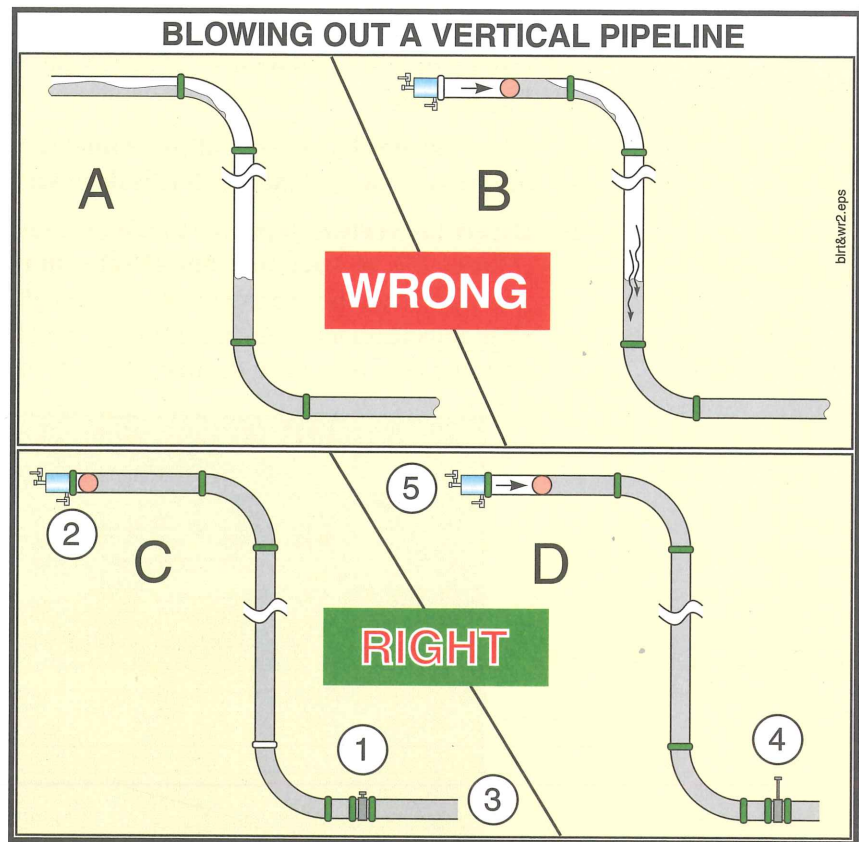

Figure 34
1. (See diagram A in Figure 34.) Without a shutoff valve installed, the pipeline is disconnected from the pump. Immediately, the concrete drains out of the vertical sections of pipe, leaving concrete in both horizontal sections, and air trapped in between.
2. (See diagram B in Figure 34.) The ball is inserted, and pushed with compressed air. This also compresses the air that is trapped in the vertical sections of pipe. The trapped air will be violently expelled when it reaches the end of the pipe, but the pipe will not yet be empty.
4. **When pumping is complete, close the shutoff valve before disconnecting the pipeline from the pump** (Item 1, Figure 34). Failure to do this will cause the concrete to fall out of the vertical sections of pipe, leaving concrete in the horizontal sections of pipe and an air pocket in the vertical sections. This does not apply if you are using a switching (diversion) valve.
5. **Install the ball(s) in the pipeline, secure the blowout head and hook up the air compressor. Do not apply the air yet!** (Item 2, Figure 34.)
7. **Position the ready mix truck at the cleanout standpipe**, or install the ball catcher or other containment device at the end of the discharge line. (Item 3, Figure 34.)
9. **Divert the vertical pipe line to the cleanout area and secure the discharge (Figure 35), or open the shutoff valve in the delivery pipe line now.** Allow gravity to start the concrete moving through the discharge line. As the concrete falls from the vertical sections, it will take the ball with it, making it impossible to trap air in the line. (Item 4, Figure 34.)
10. **Apply the compressed air to the pipeline.** Close communications must be maintained at this time. Add only enough air to keep the concrete moving. Do not allow the concrete to accelerate. (Item 5, Figure 34.)